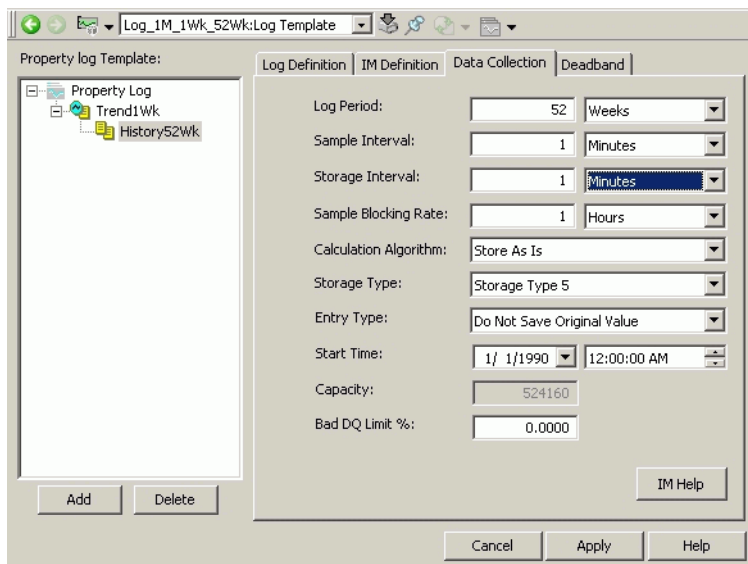

Figure 129. Data Collection Tab
3. Click on the **Data Collection** tab, Figure 129. For this example, this log needs to collect samples at a 1-minute rate and store 52 weeks worth of data. Certain data collection attributes must be configured to implement this functionality. These attributes are described in the following steps.